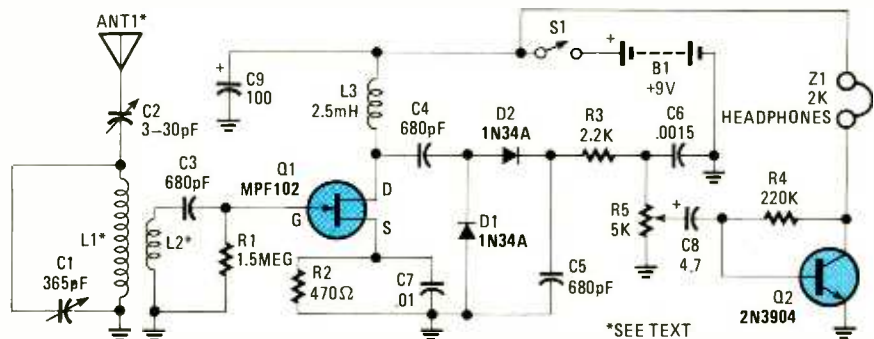

Fig. 1. The Tunable/Amplified Receiver goes two steps beyond the conventional crystal radio by adding a tuned RF amplifier and an audio-amplifier stage.
**Tunable/Amplified Receiver.** Our first receiver circuit (see Fig. 1) goes two steps beyond the popular crystal radio by adding a tuned RF amplifier stage before the signal is demodulated and an audio amplifier stage after. The RF energy from the antenna is fed through a small trimmer capacitor, C2, to the tuned circuit made up of L1 and C1. The desired broadcast signal is selected via C1 (a 365-pF variable capacitor). Inductor L2 feeds the tuned RF signal to the input of the RF amplifier, consisting of Q1 (an MPF102 N-channel, junction field-effect transistor or JFET), which boosts the RF signal many times before sending it on to the detector stage.